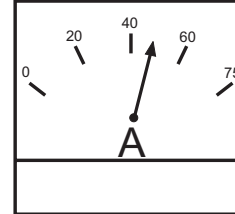

Figure 27. Ammeter (Load)
8. Set the circuit breaker to "ON". Observe the generator's ammeter (Figure 27) and verify it reads the anticipated amount of current with respect to the load. The ammeter will only display a current reading if the load is in use.